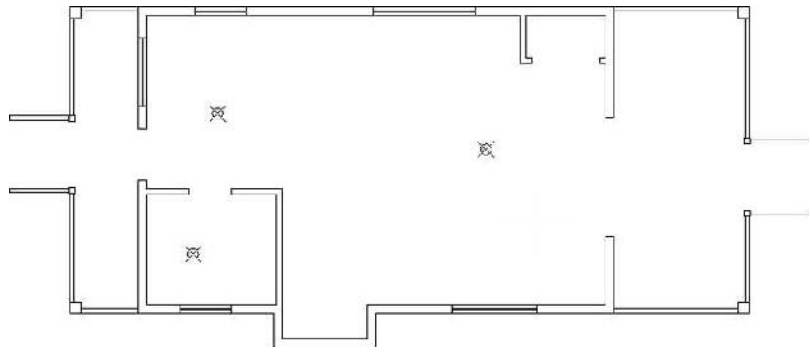

FIGURE 9.20: The floor plan with all layers turned off except A-AREA-NPLT, A-DECK, A-WALL, and A-GLAZ
3. Freeze all the other layers except A-DECK, A-GLAZ, and A-WALL. Your drawing should look like Figure 9.20.